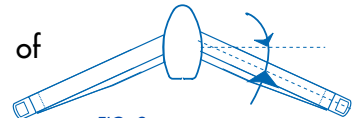

FIG. 2
- with one or two sets of spreaders, which may be swept-back (fig.2) or in-line ("in the axis");